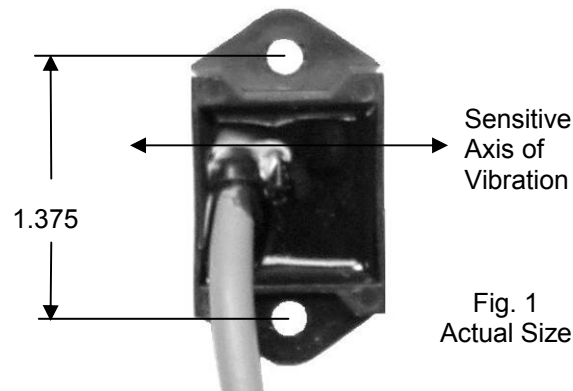
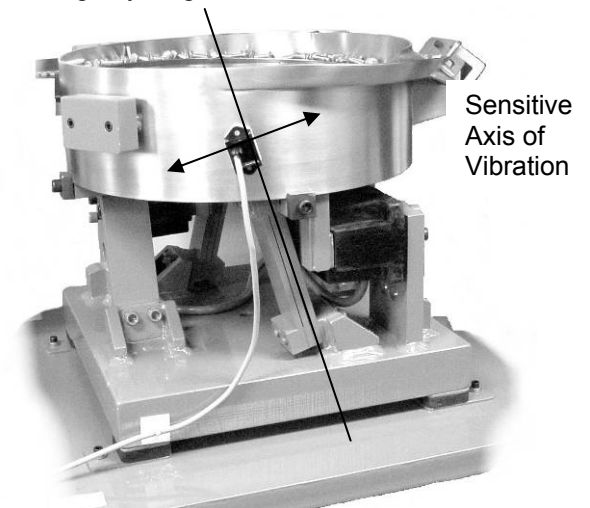

Fig. 1
Fig. 2 The arrow shows the direction of vibration which is at a right angle to the spring pack.
A. ORIENT THE SENSOR so that its sensitive axis is in the same direction as the vibration of the feeder. The double-ended arrow in figure 1 shows the sensor's sensitive axis. Align the sensitive axis of the sensor in the same direction as the vibration (see figure 2). The sensor must be oriented correctly for proper operation.
6) Remove the vibration sensor from its protective packaging. Remove the liner from the adhesive backing. Avoid touching the tape. Align the sensor as shown in figures 1 and 2. Apply the vibration sensor to the prepared area of the feeder. Press the sensor very firmly onto the feeder surface for at least 10 seconds.
Use a cable tie and an adhesive-backed mount to attach the sensor cable to the side of the drive base. See Figure 2. Clean the mounting area before applying the adhesive-backed mount.